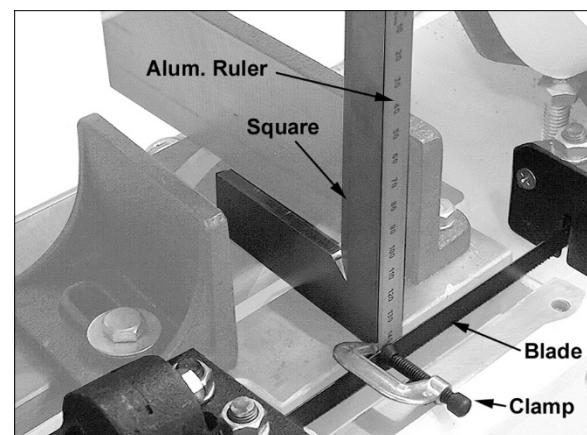

Figure 8-14: Table/Blade Squareness
1. "Extend" the blade surface by clamping a straight, flat object to blade. (Figure 8-14 uses small, lightweight aluminum ruler.) Use lightweight clamp.